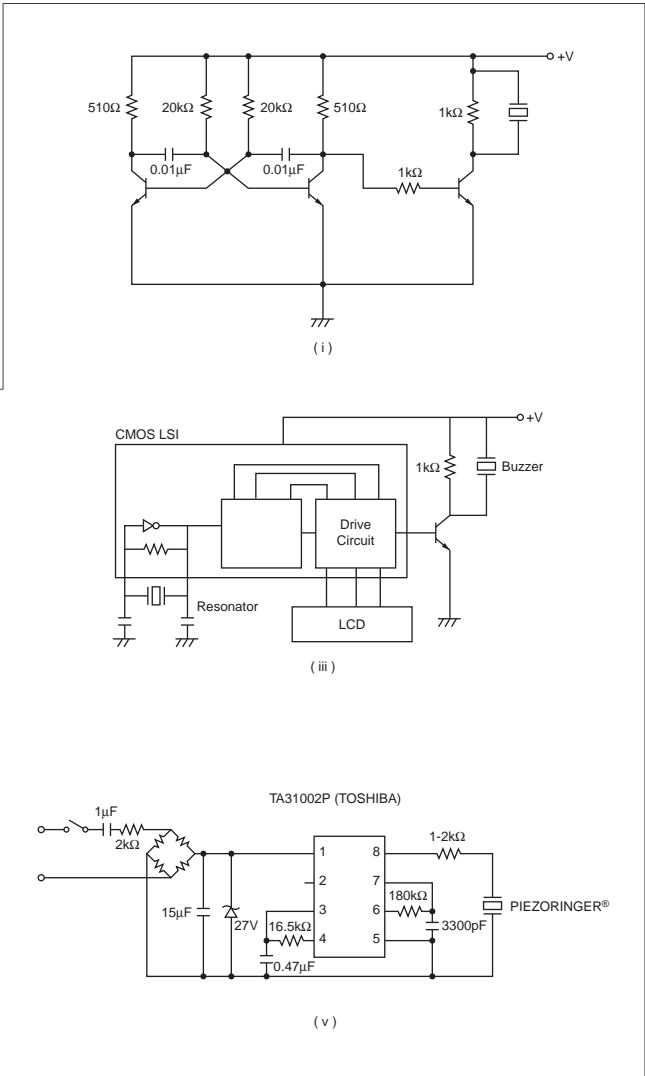

Fig. 6 Examples of the external drive circuits
This method produces sound by driving the piezoelectric diaphragm with electric signals supplied from an external oscillating circuit such as a multivibrator. Using this method, the piezoelectric buzzer can work as a speaker. In this method, a mechanical oscillation  $Q_m$  of the piezoelectric diaphragm is damped properly to provide a wider frequency band of the sound pressure. This is applied to a switching sounds of home electric appliances, key-in sounds of OA equipment, alarm sounds of digital watches and the multiple sounds like those used in electronic games. This method is also applied to the ringers, transmitters, receivers of telephone sets, card radios and speakers of crystal TV's. Fig. 6 shows examples of the circuit to which the external drive method is applied:
- ① (i), (ii), (iii) in Fig. 6, input D.C. voltage for Piezoelectric sound components should be getting larger.
- ② (i), (ii), (iii) in Fig. 6, the resistor that is connected in parallel should be changed to a booster coil (approx. 20-50mH).